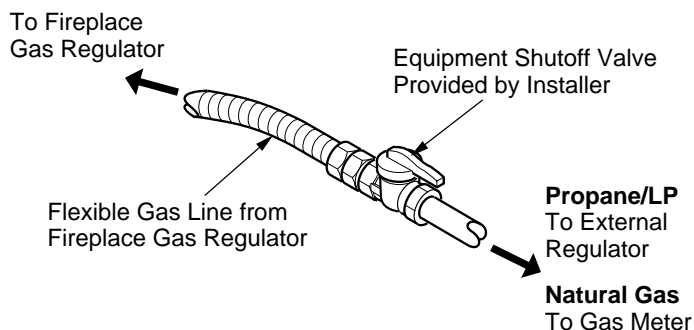

Figure 24 - Attaching Flexible Gas Lines Together
NOTICE: Most building codes do not permit concealed gas connections. A flexible gas line is provided to allow accessibility from the fireplace (see Figure 24). The flexible gas supply line connection to the equipment shutoff valve should be accessible.
4. Attach the flexible gas line to gas supply (see Figure 24). Check tightness of flexible gas line attached to gas regulator of fireplace (see Figure 24).